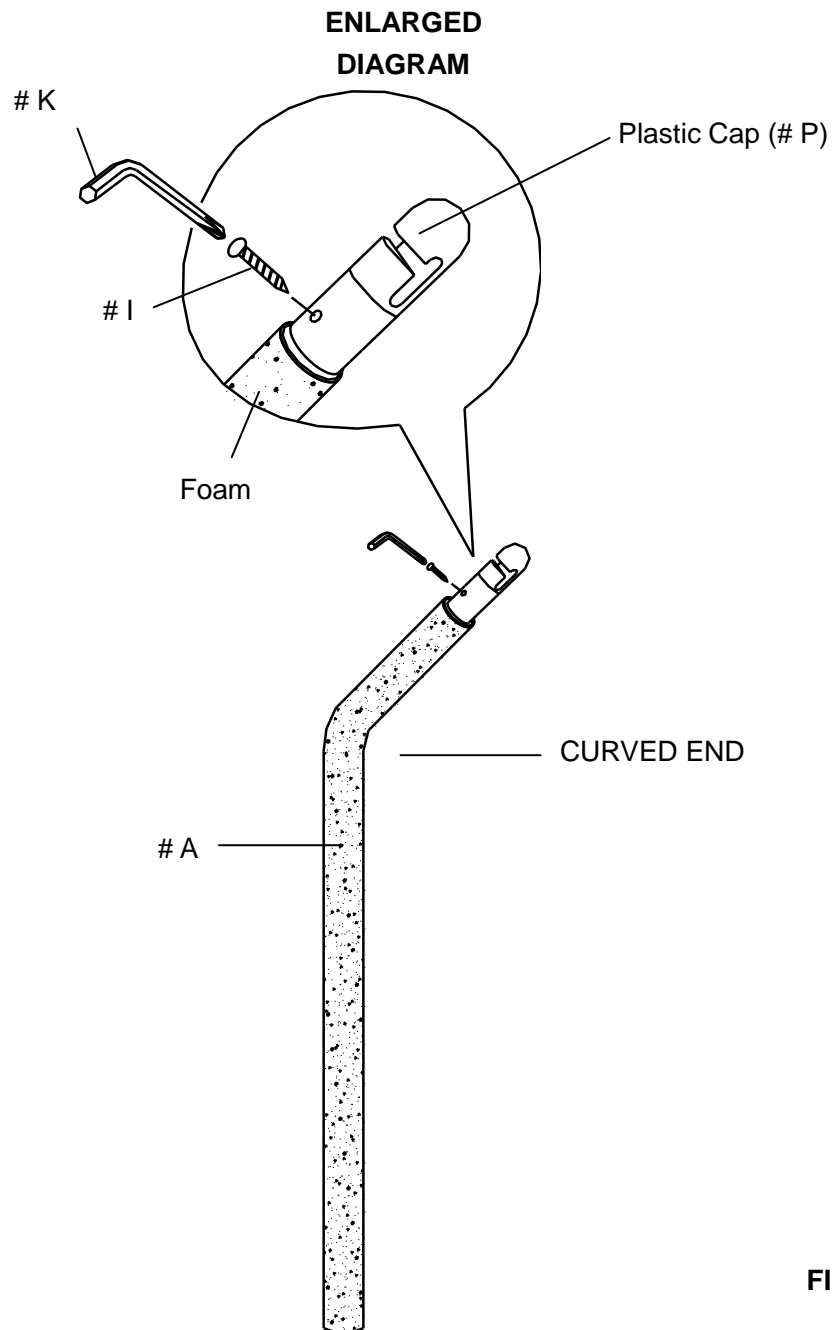

FIGURE 18
- Attach the Plastic Cap (# P) to Upper Frame Tube with Foam (# A), secure by using Self-Locking Screw (# I) and Allen Wrench (# K) as shown in FIGURE 18. Then push the foam back to its original position. Repeat this step for all Upper Frame Tubes and Plastic Caps.
2. Insert Screw (# F) through the Lower Frame Tube with Foam (# B), then the Gap Spacer (# E), and finally the Leg Frame of the trampoline. Secure using Arc Washer (# J), Spring Lock Washer (# G) and Cap Nut (# H) as shown in FIGURE 18. Repeat this step for all six (6) frame tubes.